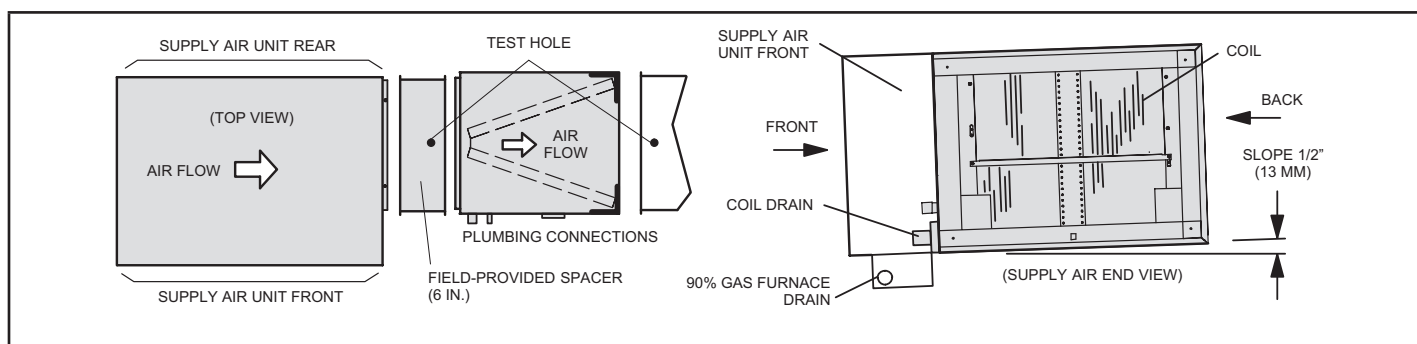

FIGURE 5. Right-Hand Air Discharge with Spacer
- 2 - **Right-Hand Air Discharge with Field-Provided Spacer** – The coil must have a 1/2" slope from the rear of the cabinet to the drain. Position the coil in the left-to-right configuration on the service access side of the furnace. Insert a field-provided spacer between the furnace and the coil. Use field-provided screws to secure the coil casing, spacer and the furnace together. The spacer should be long enough to allow room for proper installation (approximately 6 inches minimum). See figure 5.